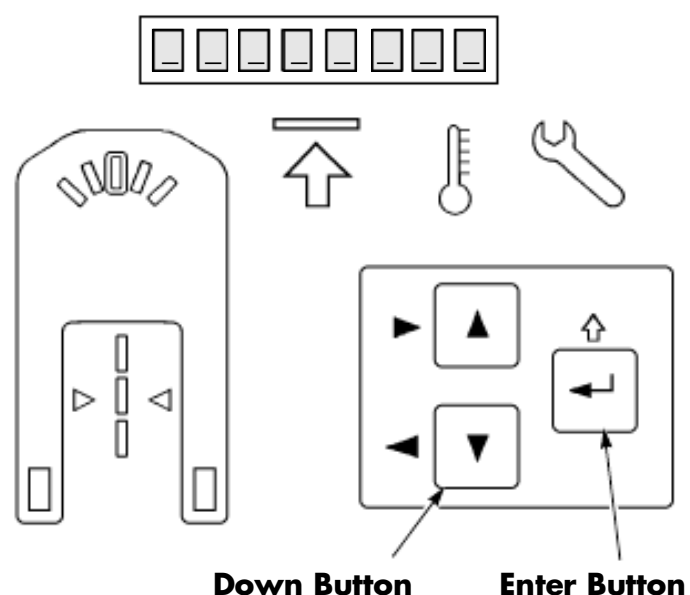

Figure 3-4. Operator Keypad and Display
3. The OD will show all eight segments with a solid bar in each segment. See Figure 3-4.
1. With the key switch OFF, press and hold the Enter (↵) button and Down (▼) button at the same time. See Figure 3-4.